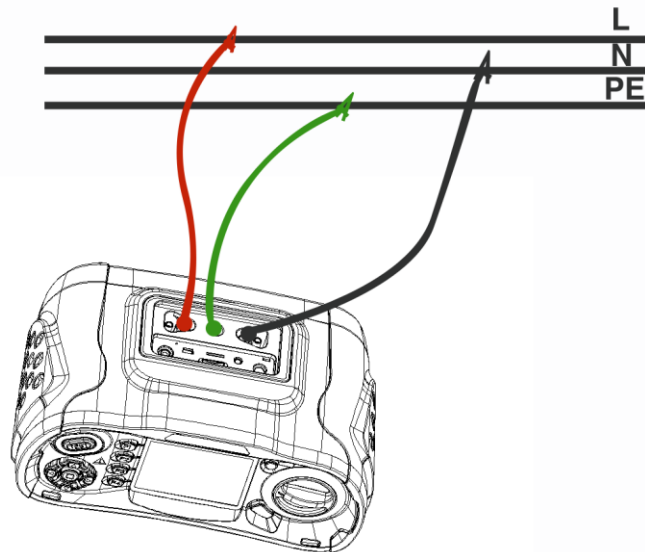

Figure 8 Hi Amp LOOP – Test lead connection
3. Connect the test leads as shown in the Figure 8